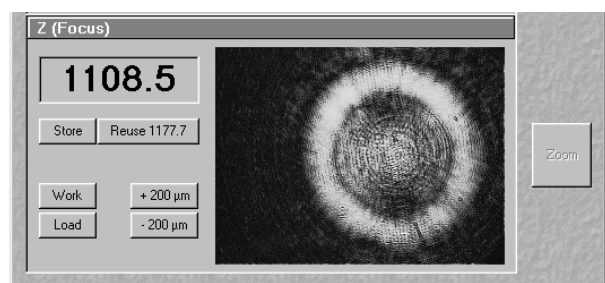

Fig. 5-170 Lower cover slip surface
- Continue cautiously moving upwards. If the camera image looks like (Fig. 5-170), you are close to the lower cover slip surface.